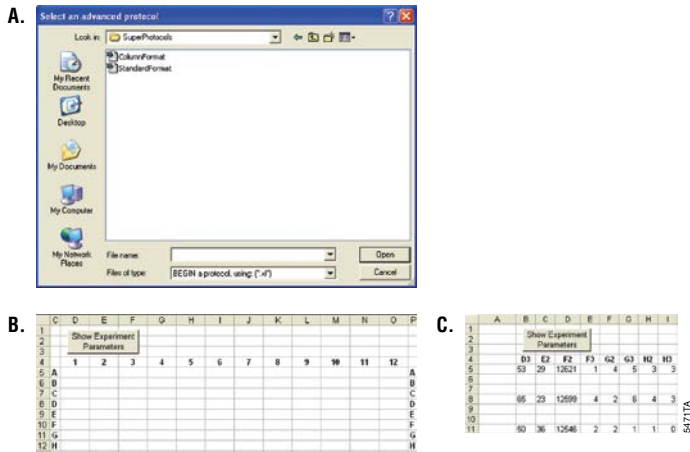

Figure 15. The Super Protocols Folder (Panel A) and data report formats: standard (Panel B) and column (Panel C).
2. Close the subprotocols, then open the Super Protocols folder in the “Advanced Protocols” folder. Standard and column formats are available for reporting data from Super Protocols (Figure 15).